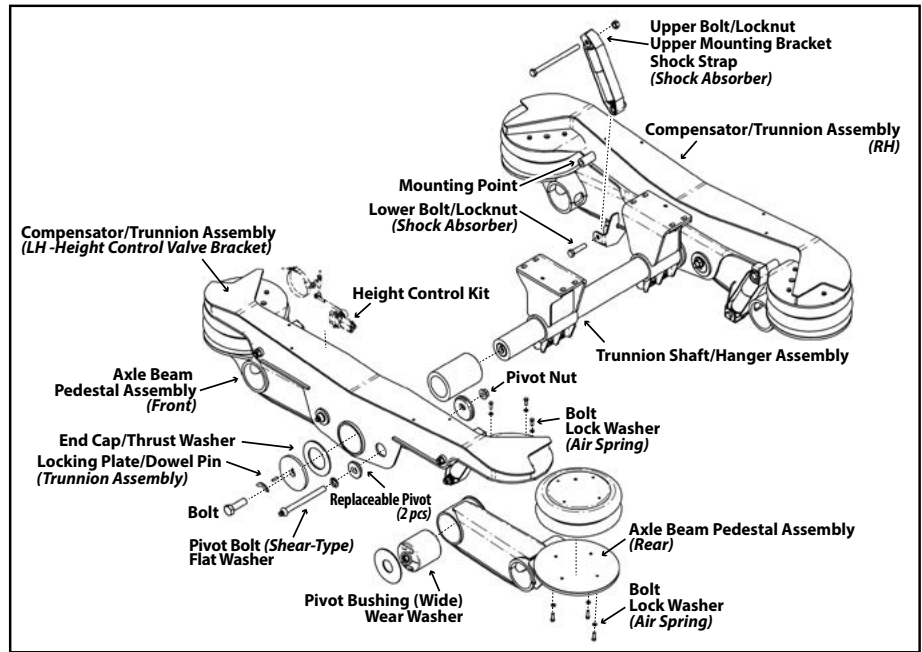

Figure 20.
3. Measure from the kingpin center point (Figure 20).